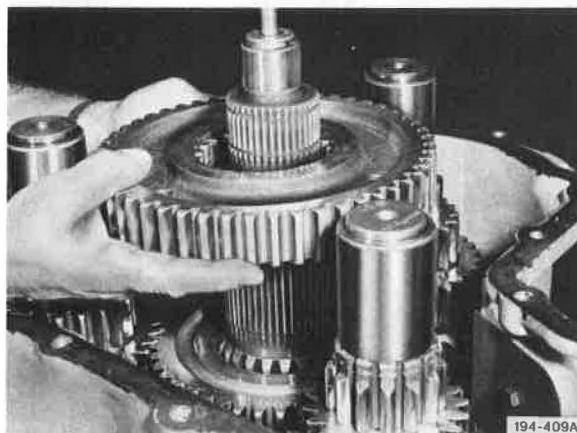

Figure 357. Installing Second Speed Gear
16. Install second speed gear and thrust washer (beveled side of clutch teeth toward front of transmission), and engage with countershaft second speed gears. See Figure 357.